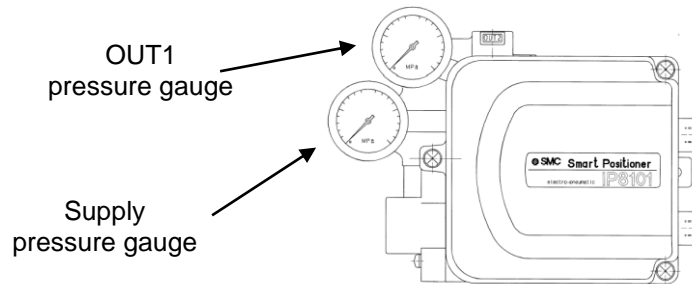

Fig. 17
- \*5: A Description of pressure gauges mounted on the positioner are as shown in Fig. 17.